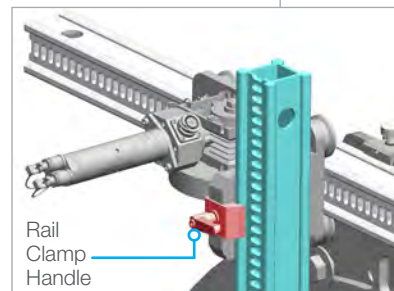

FIGURE 7
- Loosen the **Rail Clamp Handle** on the Horizontal Drive. Align the Idler Carriage on the lower rail so the Vertical Rail can slide into it. Slide the **Vertical Rail** with (slots facing out) down through the Horizontal Drive clamp and between the rollers on the idler carriage. Adjust the position of the vertical rail as required and secure the rail in place by tightening the **Rail Clamp Handle** on the Horizontal Drive. (**Figure 7**)